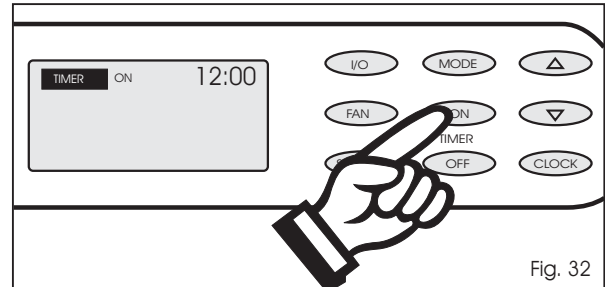
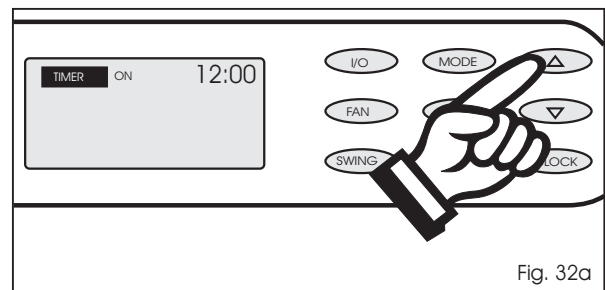

Fig. 32
Fig. 32a
7) Press the **TIMER-ON** key pad to initiate the **AUTO-ON** time sequence. Fig. 32. The display window will indicate **TIMER-ON** and the word **ON** will flash for 5 seconds. Press the Δ or ∇ key to select the desired **AUTO-ON** start time. Fig.32a.
1) Press the **TIMER-ON** key pad to initiate the **AUTO-ON** time sequence.(Fig.32). The display window will indicate **TIMER-ON** and the word **ON** will flash for 5 seconds. Press the Δ or ∇ key pad to select the desired **AUTO-ON** start time.(Fig. 32a).
2) Press the **AUTO-OFF** key pad to initiate the **AUTO-OFF** time sequence. (Fig.33). The display window will indicate **TIMER-OFF** and the word **OFF** will flash for 5 seconds. Press the Δ or ∇ key pad to select the desired **AUTO-OFF** time.(Fig. 32a).